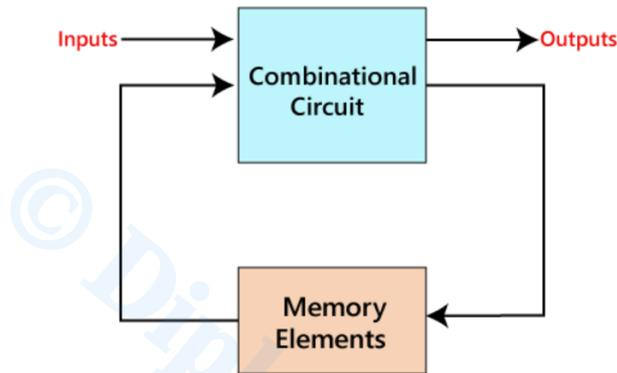

Fig.4.1: Block Diagram for Sequential logic circuit.
Input variables (X), computation circuit (logic gates), and output variables make up the sequential circuit as shown in Fig. 4.1. A sequential circuit generates an output based on both the primary input and previous output variables, as opposed to a combinational circuit which generates an output based only on the present input variables. Thus, memory components that can store binary information are present in sequential circuits.